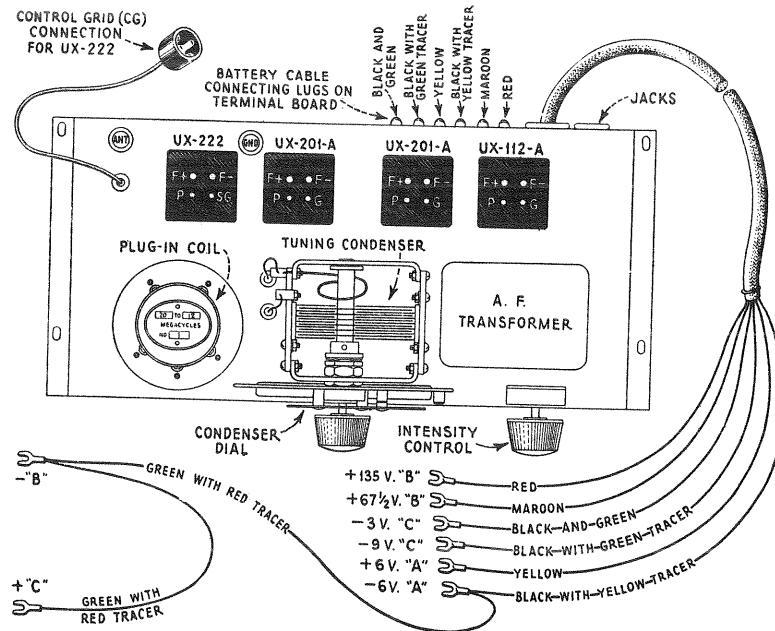

Figure 10—Socket layout and battery cable connections
After the antenna and ground system has been properly installed the receiver should be unpacked and placed in the location it is to occupy, which must be in range of the antenna and ground connections. The battery cord should be pulled through the hole in the rear of the cabinet and connections made as shown in Figure 10. A fuse block equipped with a 5 or 10-ampere fuse should be placed in series with the positive "A" battery lead. This may be done by cutting the yellow lead and connecting the block to each of the ends made by the cut. All other connections should be accurately made, as otherwise correct operation will not be secured and damage in some cases will result.
The color scheme of the leads is shown on the tag tied to the battery cable and in Figure 10.
The Radiotron sockets in the RCA Short Wave Receiver are of the standard UX two-gang type. The cushioned sockets are for the UX-222 coupling tube and the UX-201A detector. The solidly mounted sockets are for the first and power audio stages. Care must be exercised when inserting Radiotrons in their sockets. A socket contact may not be in its correct position and the forced insertion of a tube will bend or break it. If care is exercised and the Radiotrons inserted gently little trouble will be experienced with socket contacts. A bent one will be noticeable on inspection and may be corrected by inserting a narrow instrument in the socket hole and pushing the contact into its correct position. A badly bent or broken socket contact must be replaced. The Radiotron socket layout, with socket contact designations for use in the continuity tests outlined in Part III, Sec. 3 along with battery cable markings are shown in Figure 10.
- (c) Wrong battery connections causing wrong plate and grid voltages. Check battery connections according to Figure 10.
The remedy lies in interchanging the Radiotrons. Counting from left to right the second Radiotron UX-201A (see Figure 10) is the most susceptible to this microphonic condition. Interchanging it, with the UX-201A of the A.F. amplifier or placing the loudspeaker at a greater distance from the receiver will generally remedy this condition. In some cases both remedies may be necessary.
The following voltages taken at each Radiotron Socket with the receiver in operating condition should prove of value when checking is done with test sets such as the Weston, Model 537, Type 2, or others giving similar readings. The plate currents shown are not necessarily accurate for each tube, as the cable in the test set will cause some circuits to oscillate, due to its added capacity. Small variations of voltages will be caused by different tubes and battery voltages. Therefore the following values must be taken as approximately those that will be found under varying conditions. Radiotron positions are shown in Figure 10.
Intensity Control Near Zero. Operating Switch "On." All Batteries Connected. (See Figure 10.) Radiotrons in Sockets, or Test Set. Loudspeaker Plugged in Second Audio Stage Jack.
All Radiotrons should be removed and batteries disconnected. A plug-in coil should be inserted in the coil socket. The Radiotron socket numbers and designation of socket contacts are shown in Figure 10.
The designation P, CG, SG and G refer to the plate, control grid, screen grid and grid contacts of the various sockets. For example, G2 would indicate the grid contact of the second socket (see Figure 10).
Remove all Radiotrons and disconnect batteries. Insert a plug-in coil in coil socket. Refer to Figure 10 for Radiotron socket numbers and designation of socket contacts. Intensity control near zero. Keep hands free from chassis frame.
- (b) Replace and resolder new battery cable by referring to Figure 10 for correct color code of connections.